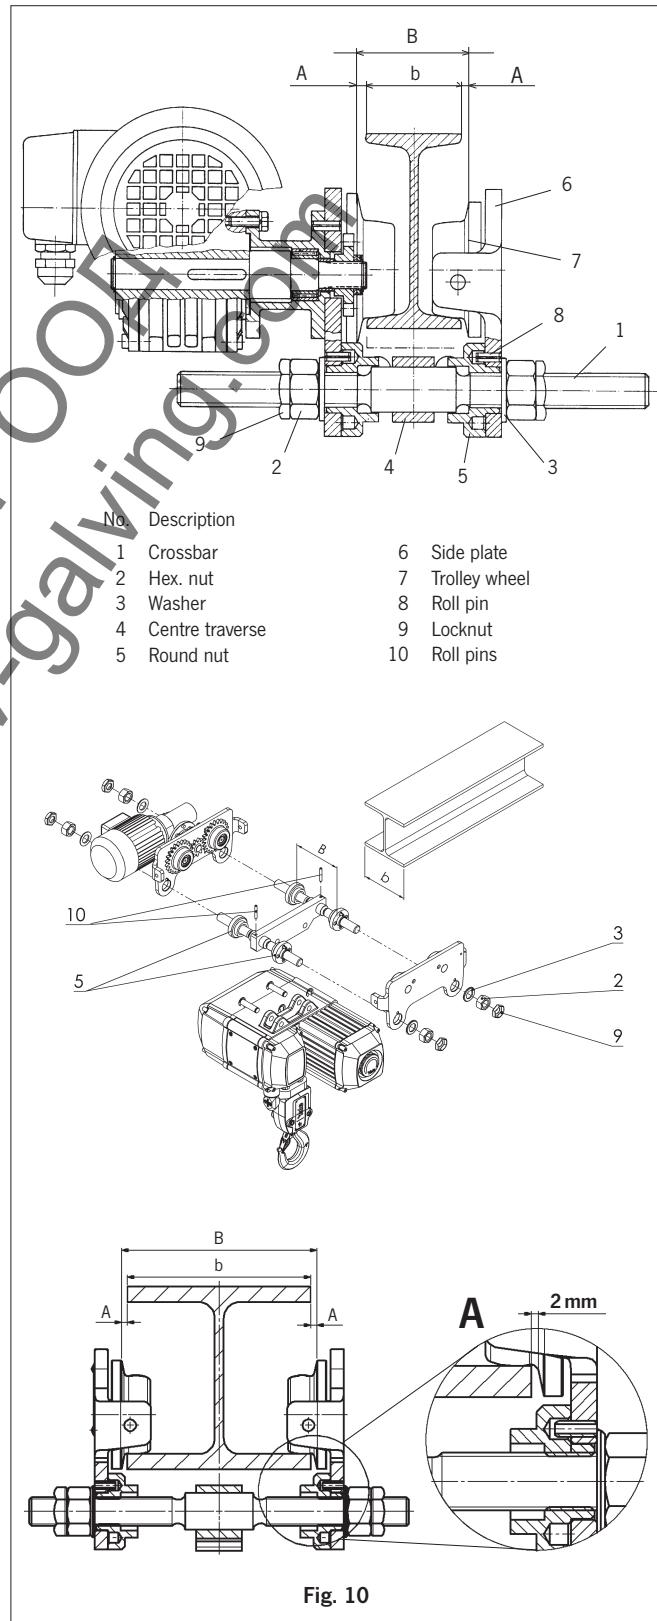

Fig. 10
Assembly of the trolley (see Fig. 10)
- Unscrew the locking nuts (item 9) and hex. nuts (item 2) from the crossbars (item 1) and remove both side plates (item 6) from the trolley.
- Measure the flange width of the beam (see Fig. 10 - measure b).
- Adjust measure B between the shoulders of the round nuts (item 5) on the threaded crossbars (item 1). Ensure that the 4 bores in the round nuts face towards the outside. Adjust the measure B to equal measure b plus 4 mm. Measure A must be 2 mm on either side and the suspension traverse (item 4) must be centred between the round nuts.
- Replace one side plate (item 6): Replace one side plate ensuring that the roll pins (item 8) engage into one of the bores in the round nuts. To achieve this it may be necessary to rotate the round nuts slightly.
- Replace the washers (item 3) and tighten the hex. nuts (item 2). Screw on the locknuts (item 9) fingertight and tighten a further $\frac{1}{4}$ to $\frac{1}{2}$ turn.